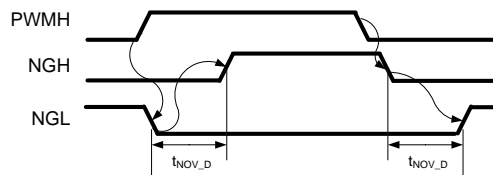

Figure 1: Local Mode operation
- Local Mode: PWML and PWMH are generated out of one input signal (PWMH) and proper non overlapping timing is managed locally on the CMT8243/8244 board (cfr Figure 1)